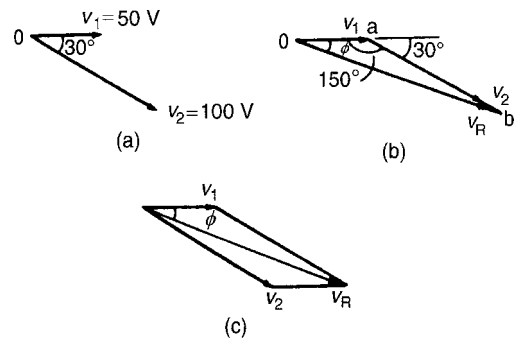

Figure 14.11
Phasors are usually drawn at the instant when time $t = 0$. Thus v_1 is drawn horizontally 50 units long and v_2 is drawn 100 units long lagging v_1 by $\pi/6$ rads, i.e. 30° . This is shown in Fig. 14.11(a) where 0 is the point of rotation of the phasors.
- (i) Draw v_1 horizontal 50 units long, i.e. oa of Fig. 14.11(b)
- (ii) Join v_2 to the end of v_1 at the appropriate angle, i.e. ab of Fig. 14.11(b)
Alternatively, when two phasors are being added the resultant is always the diagonal of the parallelogram, as shown in Fig. 14.11(c).
A more accurate solution is obtained by calculation, using the cosine and sine rules. Using the cosine rule on triangle $0ab$ of Fig. 14.11(b) gives: